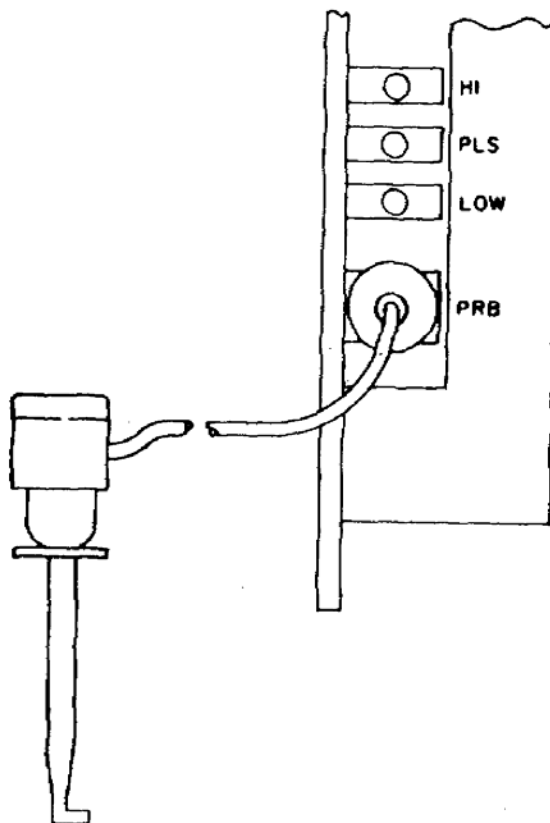

Figure 14. BITE Module Probe and Indicator LEDs.
(2) The clock LEDs are normally off when the processors are operating normally. The clock LEDs are:
- (a) Processor clock (PC).
3. A probe and three indicator LEDs can be used to read logic levels on module test point. One end of the probe is plugged into the BITE module jack labeled PRB. The other end can be connected to various test points (see figure 14).